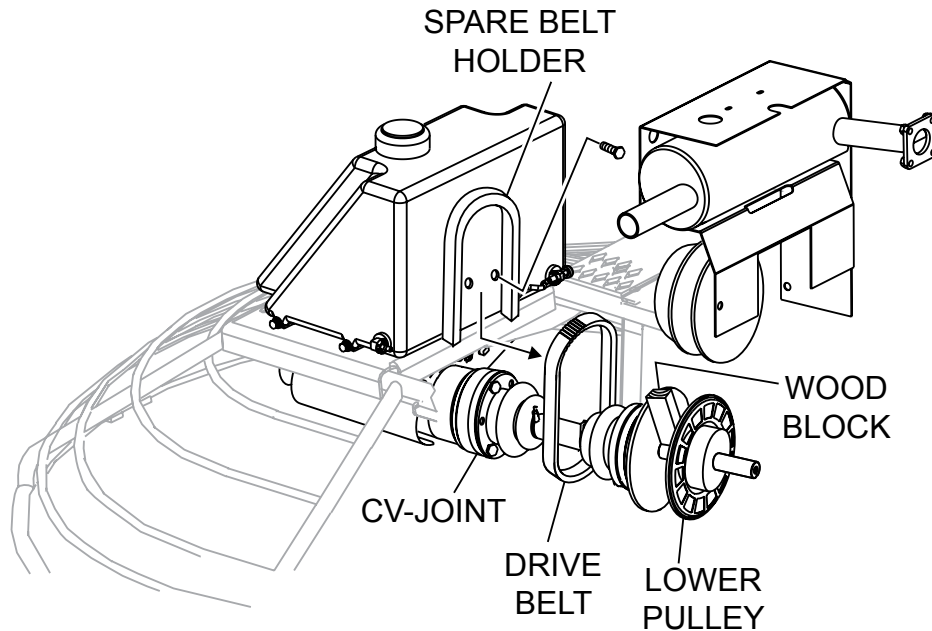

Figure 19. Installing Drive Belt
2. To replace the drive belt with the spare drive belt, remove the 2 bolts that secure the drive belt carrier. (Figure 19) This will allow free movement of the belt for installation. Take care with to not contaminate the replacement belt with grease or dirt.